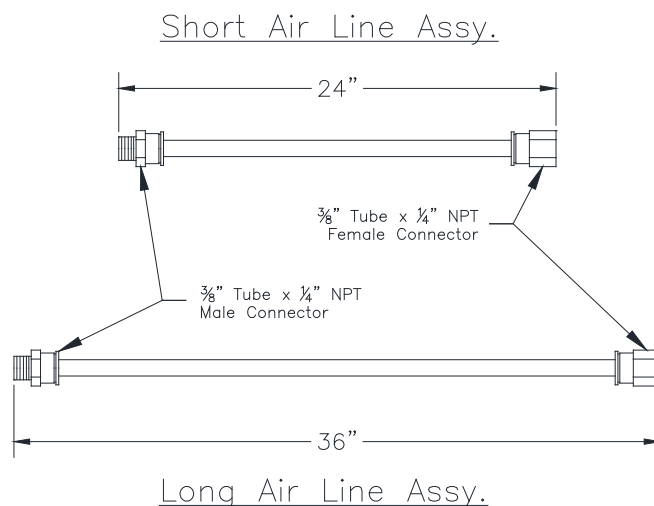

Figure 10
19. Cut (2) lengths of 3/8" tubing and attach fittings to ends as shown in **Fig 10**.